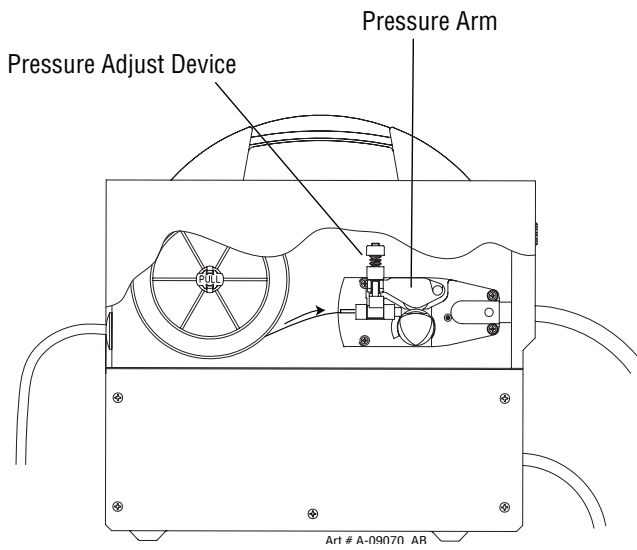

Figure 3-4: Opening Pressure Arm
3. Open Pressure Arm (Fig. 3-4).